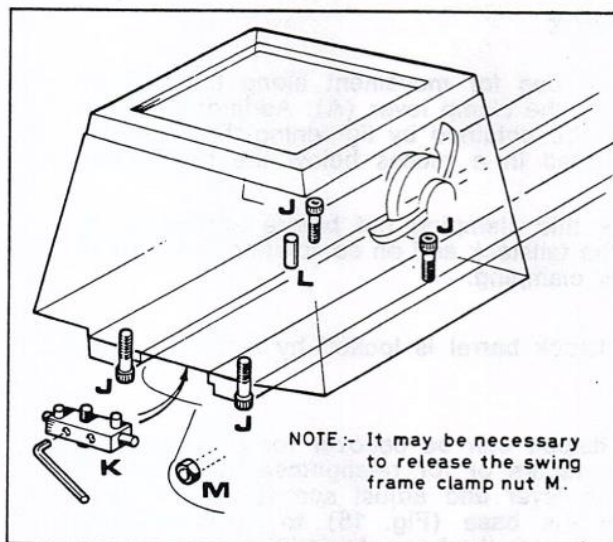

Fig. 18
To correct a difference in readings, slacken the four headstock hold-down screws (J) shown in Fig. 18 and adjust the set-over pad (K) beneath the headstock to pivot the headstock about the dowel (L). Tighten all screws after adjustment and repeat the test-cut / micrometer-reading sequence until micrometer readings are identical, i.e. machine now cutting absolutely parallel.